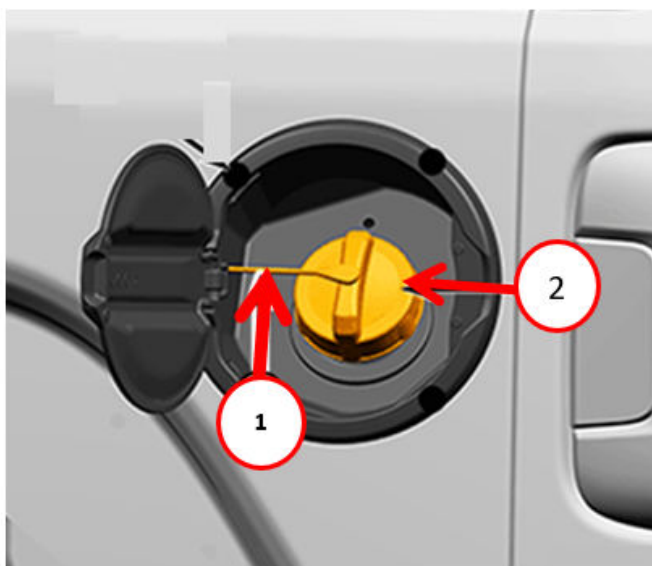

Fig. 1
14. Remove the fuel cap tether strap fastener securing the strap to the fuel door housing Fig. 1.